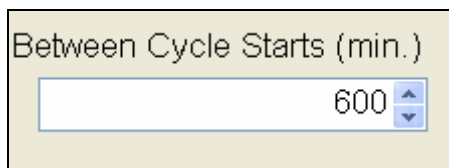

Figure 17.1.9
- Use the **UP** and **DOWN** arrows to adjust the amount of time for Between Cycle Starts (Figure 17.1.9).